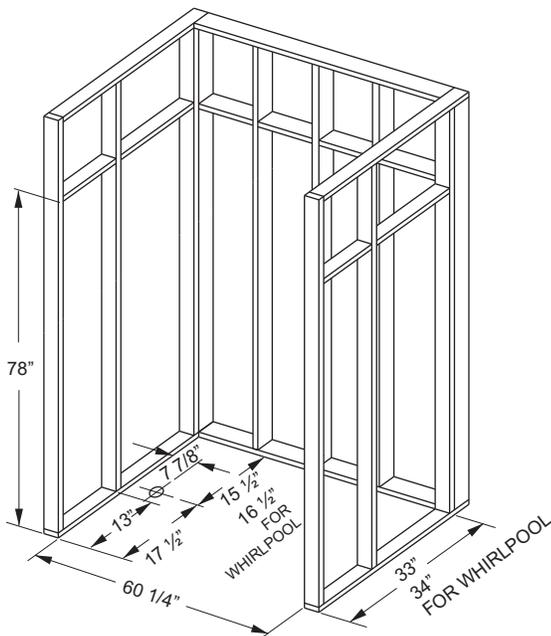
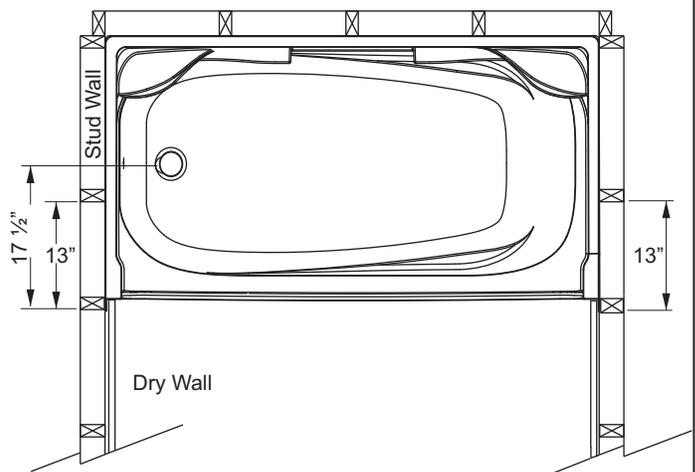

FIGURE 1 - LAYOUT DIMENSIONS
FIGURE 2 - SHOWING THE TOP VIEW OF THE SHOWER IN THE ALCOVE.
- The Tub Shower is to fit into framed alcove as shown in Figure 1 and Figure 2.
- Framing: Inside dimension of the studded alcove are to be as specified in Figure 1.
- Build solid framing to the dimensions in Figure 1.
- The drain location on the tub shower is shown in figure 1.